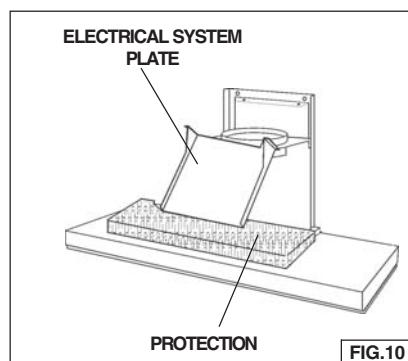

FIG.10
1. Remove the tape on the electrical system plate; place the electrical system plate on the hood (use a protection). Fig. 10